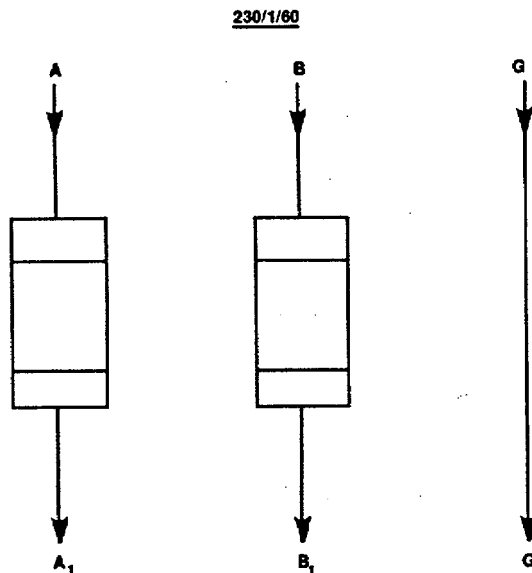

Figure 2-4. Checking Three Phase Circuit Fuses.
- 4 In a three phase circuit turn the power ON and check between A-C1, C-B1, and C-A1 with a voltmeter (FIGURE 2-4). If no voltage: